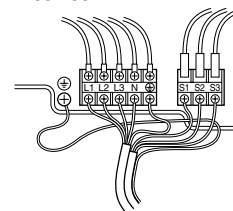

Fig. 6-2
6.1. Outdoor unit (Fig. 6-1, Fig. 6-2)
- ① Remove the service panel.
- ② Wire the cables referring to the Fig. 6-1 and the Fig. 6-2.